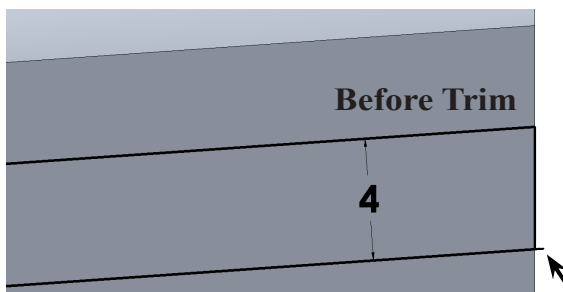

Fig. 93
Step 22. Trim the small piece of line that extends out from body, **Fig. 93**.